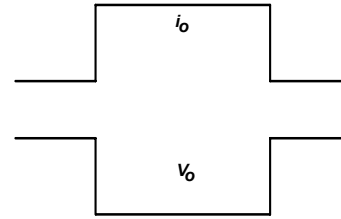
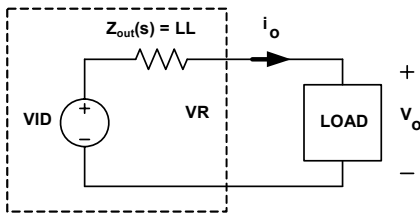

FIGURE 18. DESIRED LOAD TRANSIENT RESPONSE WAVEFORMS
FIGURE 24. VOLTAGE REGULATOR EQUIVALENT CIRCUIT
Assuming the compensator design is correct, Figure 18 shows the expected load transient response waveforms if C_n is correctly selected. When the load current I_{core} has a square change, the output voltage V_{core} also has a square response.
Figure 18 shows the desired load transient response waveforms. Figure 24 shows the equivalent circuit of a voltage regulator (VR) with the droop function. A VR is equivalent to a voltage source ($= V_{ID}$) and output impedance $Z_{out}(s)$. If $Z_{out}(s)$ is equal to the load line slope LL , i.e. constant output impedance, in the entire frequency range, V_o will have square response when I_o has a square change.